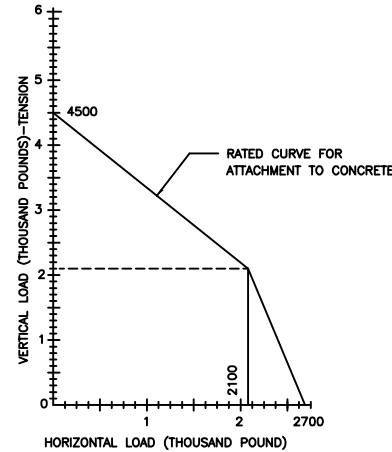

FIGURE 1
1. HORIZONTAL AND VERTICAL RATINGS OF M4SS-1E SERIES ARE SHOWN IN FIGURE 1, 2 AND 3. ANALYSIS HAVE BEEN PERFORMED IN ACCORDANCE WITH APPLICABLE CODES
- A. FOUR (4) 5/8" DIA. HILTI "KWIK-BOLT II" WEDGE ANCHORS, WITH MINIMUM 4" EMBEDMENT INTO 3000 PSI NORMAL WEIGHT CONCRETE. MINIMUM EDGE DISTANCE IS 8 1/4".